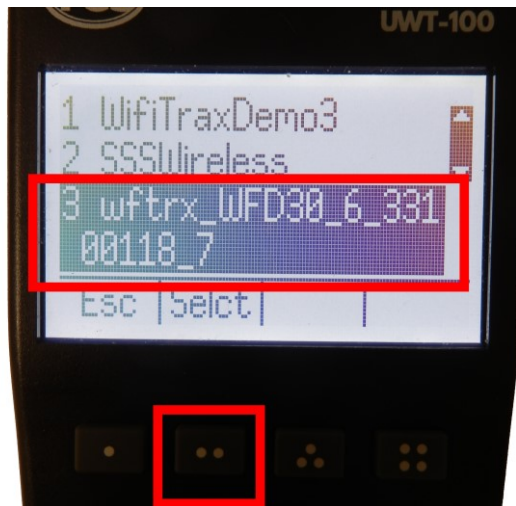

Figure 27 Select the Wi-Fi Network of the WFD-30/31
- (5) In the Found Networks list, identify the one which has the form wftrx\_WFD30\_1\_XXXXXXXX\_7 or wftrx\_WFD31\_1\_XXXXXXXX\_7, where XXXXXXXX is the serial number of your unit as Figure 27 (the “1” may be replaced by “6” or some other number depending on the Wi-Fi channel). Select that Network, using the Selct [..] key. No password is required.